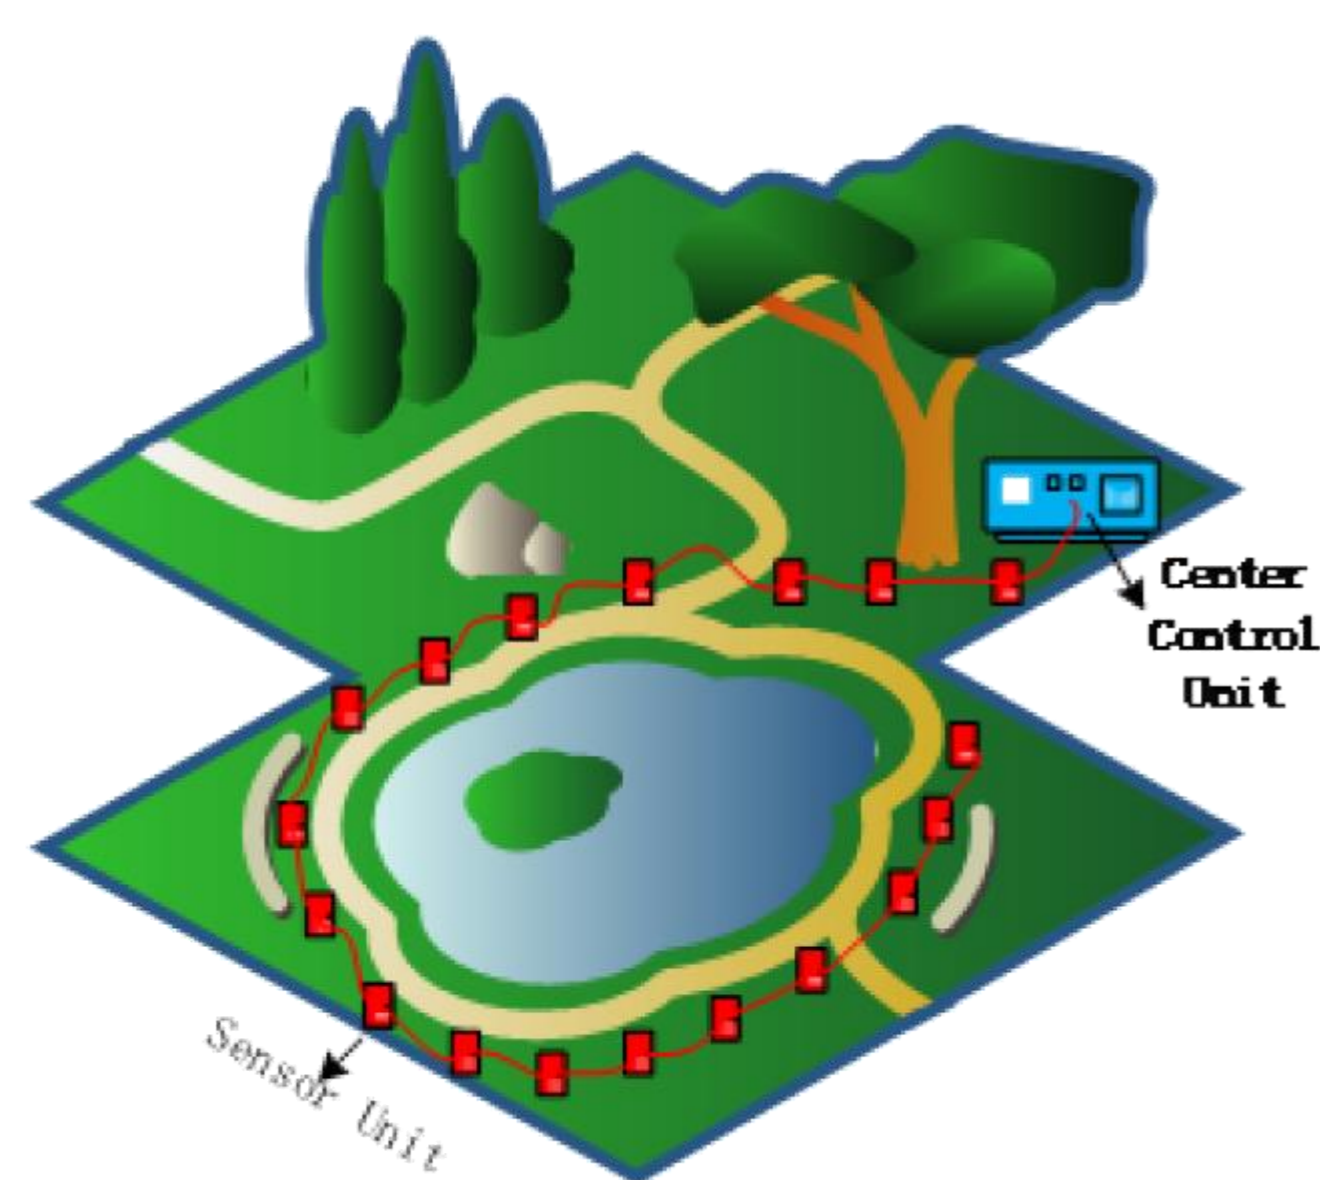

Fig.1 Cable based sensor network
As shown in fig.1, a cable based sensor network is used to monitor the lake. The sensor network is composed by one Center Control Unit (CCU) and many Sensor Units (SU). All the SUs is connected with a cable to the CCU, the cable can be used to distributed power from CU to SUs. Fig.2 is the power distribution model of fig.1.